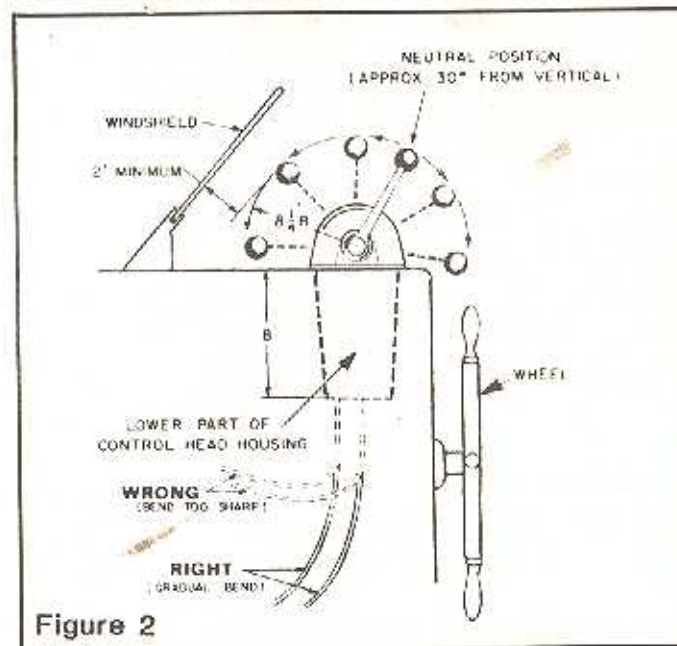

Figure 2
- (a) Allow clearance for full forward and ample reverse movement of the control hand lever. (Figure 2).
- (b) The bottom of the control head housing should not interfere with the steering gear or other components inside the wheelbox. (Figure 2).
- (c) The area below the control head housing should allow an unobstructed path for running the control cables to the engine. (See Figure 2).
Cables should run straight downward or in a gradual curve well below the bottom of the control head housing before bending. Throttle cable requires free, back-and-forth swing clearance below the housing. (See Figure 2).
The cables should NOT be bent SHARPLY in ANY DIRECTION close to the bottom of the control. Sharp bends produce excess friction in the cables causing the control lever to bind and become hard to move. In severe cases, cable damage will result. (See Figure 2).